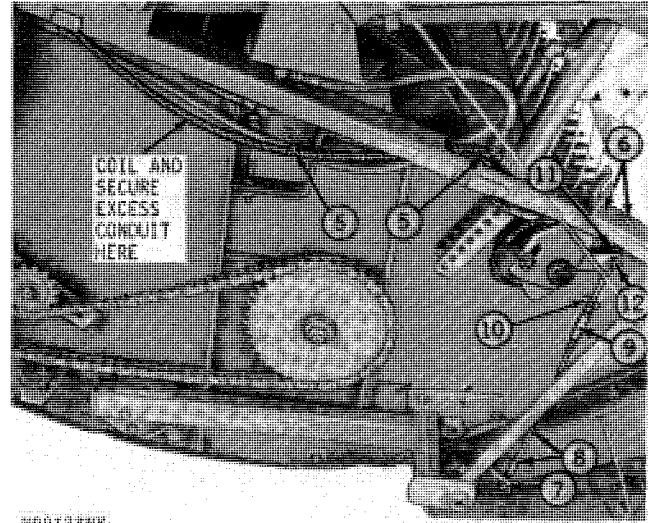

Fig. 111-Installing Header Height Control Parts
**NOTE:** A common conduit is provided for installation on all sizes of 200 Series Platforms. Coil excess conduit (smaller platforms) and secure with self-locking band (Fig. 111). Allow enough conduit for the connection at the feeder house.
6. Attach switch assembly to the under side of end sheet edge with two existing round head bolts and nuts (Fig. 111).
7. Attach a ball joint to the sensing rod bracket with a 3/8-inch fine thread nut (Fig. 111).
8. Thread left-hand (long) push rod link in ball joint and lock with a 5/16-inch fine thread jam nut (Fig. 111).
9. Thread turnbuckle on left-hand push rod link (Fig. 111).
10. Thread 5/16-inch wing nut on right-hand (short) push rod link and then thread link into turnbuckle (Fig. 111).
11. Thread the other ball joint on right-hand (short) push rod link and lock with a 5/16-inch fine thread jam nut (Fig. 111).
12. Attach upper ball joint to cam arm with a 3/8-inch fine thread nut (Fig. 111).